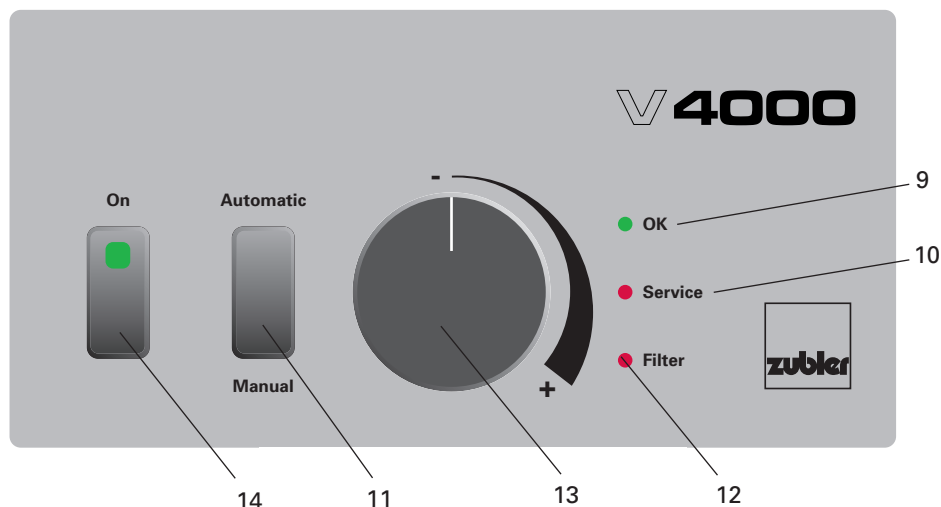

Fig. 1.1: Front panel
If the red LED "Filter" (12) (Fig.1.1) is still lighted although the filterbag was already replaced or if the change intervals of the filter bag get sensibly shorter, the cause is a clogged fine filter cartridge.